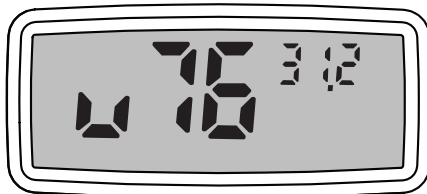

Figure 13 Calibration Mode screen
4. Press the II button (on the right) once to get the **Calibration Mode** screen (Figure 13).
Figure 13 shows that the water activity meter is ready to have its calibration adjusted up for the 0.76 standard. The number in the upper right corner indicates the water activity measurement that the water activity meter just read. Press the II button to scroll through the other selections. They are: u76, d76, u25, d25, Sto, u92, and d92. The u and d before each number stand for **up** or **down** adjustment for each standard. The numbers (25, 76, and 92) correspond to the water activity of a verification standard (0.76, 0.25, and 0.92 a_w). The Sto position stores a reading.